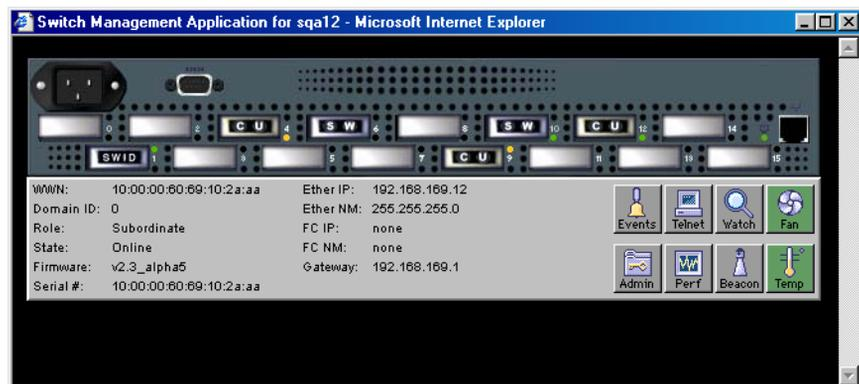

Figure 3-12 Switch View
3. Click the **Switch** icon. The Switch View (Figure 3-12) displays.